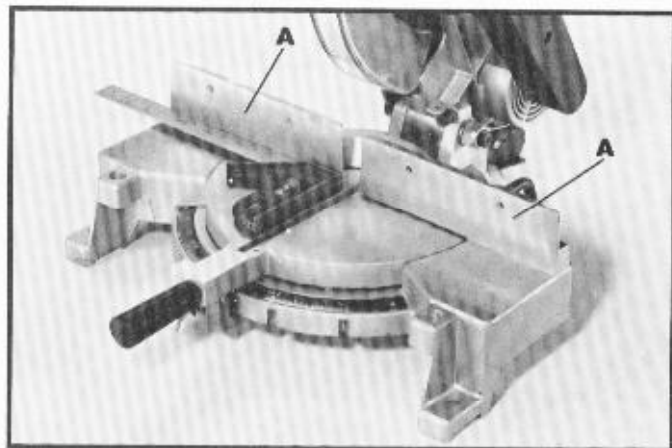
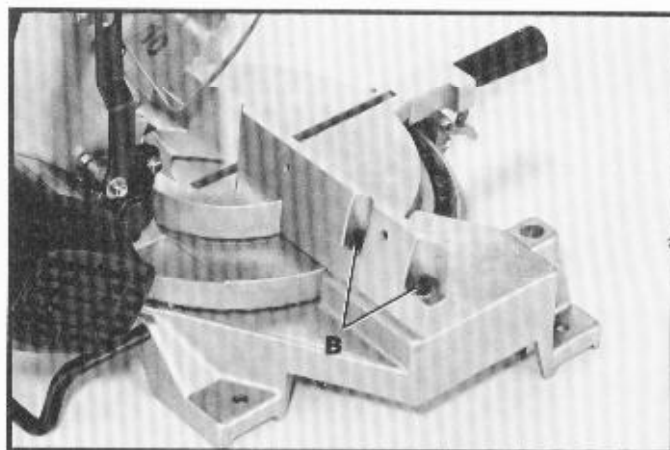

Fig. 31
Fig. 32
If the fence (A) Fig. 31, is ever removed from the saw it should be adjusted so it is 90 degrees to the blade when it is replaced. Using a square, place one end of the square against the fence and the other end against the slot in the table, as shown in Fig. 31. Position the fence so it is 90 degrees to the table slot and tighten the four screws, two of which are shown at (B) Fig. 32. **IMPORTANT:** After the fence is positioned 90 degrees to the table slot, it may be necessary to adjust the positive stops by referring to the section **ADJUSTING TABLE POSITIVE STOPS**.